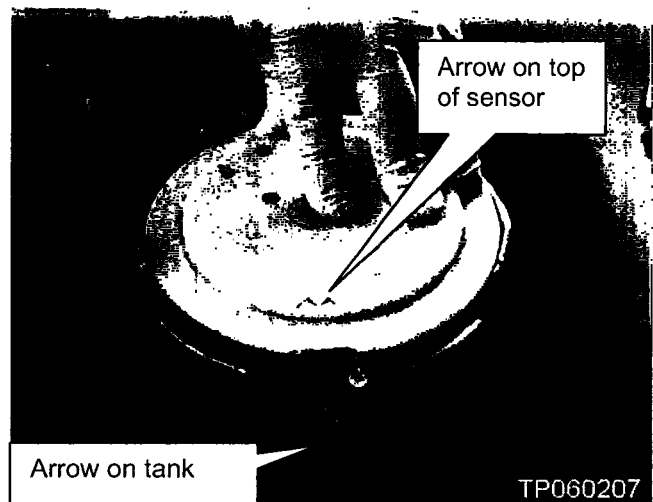

Figure 66
25. Make sure the arrow on the tank and the arrow on the top of the sensor are aligned as shown in Figure 66.